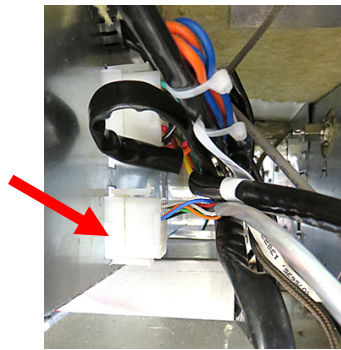

Figure 17
18. Accessing the rear of the control box from the side, unplug the bottom 12-pin plug (see Figure 17).